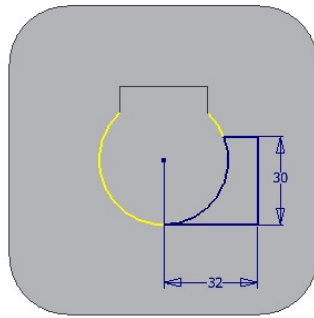

Figure 7-69 *Sketch of the second rectangular feature*
5. Similarly, create the sketch of the second rectangular feature and extrude it to a distance of 57 mm, refer to Figures 7-69 and 7-70.